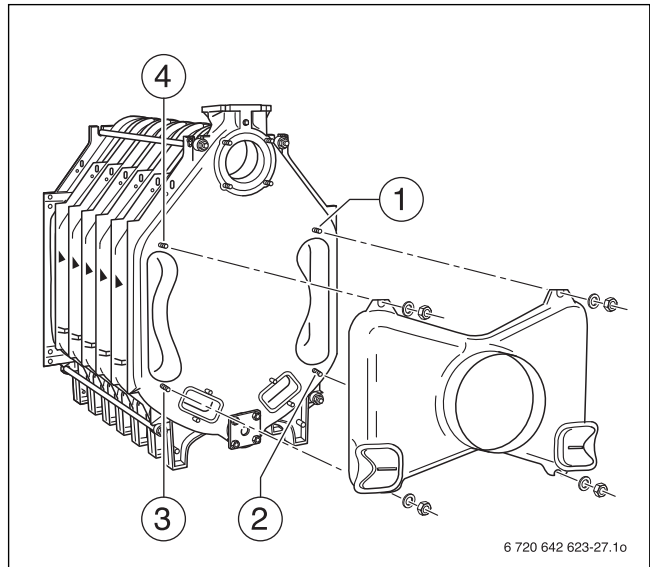

Fig. 29 Fitting the draft diverter
- ▶ Place the draft diverter onto the four threaded studs on the rear section (→ Fig. 29 [1 to 4]) and secure using washers and nuts.